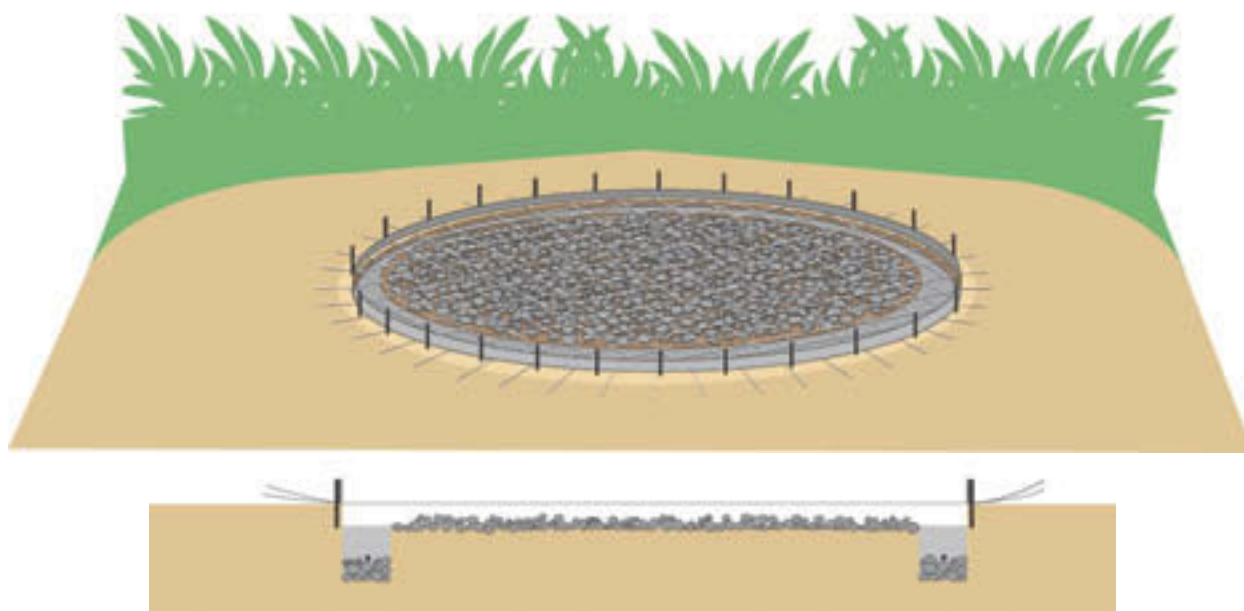

Fig. 23c: Constructing the Base, Step 3 (front and section view)
5. Next, lay wire reinforcement across the base every 0.1–0.15 m. Then, add a second layer of wires, again every 0.1–0.15 m. The wires in this second layer should be placed perpendicular to the wires in the first layer, creating a mesh. The higher the tank, the denser the wire reinforcement needs to be. Use 0.1 m spacing for a tank height of 2.1 m. **Be sure to leave 0.15 m (15 cm) of excess wire hanging off on both sides** (to be used later when attaching vertical reinforcement wires). See figure 23c for demonstration of wire placement.